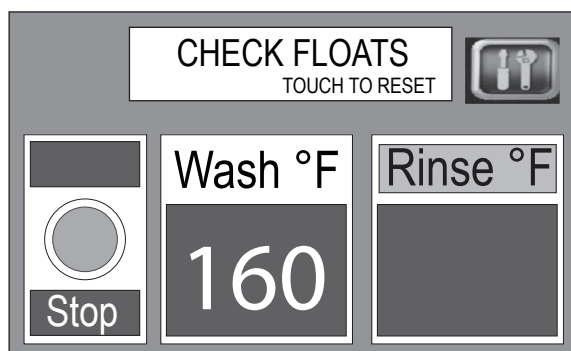

Fig. 28
- 2** Refer to Fig. 28 below and note the location of the strainer on the tank wall. Pull the strainer straight up to remove.